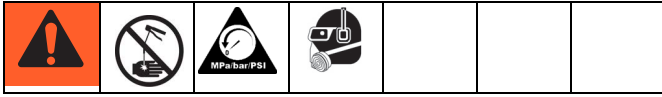

**FIG. 58**
12. Install cover over reservoir gasket (26). Install spacer (20) and tie rods (29) (FIG. 58).